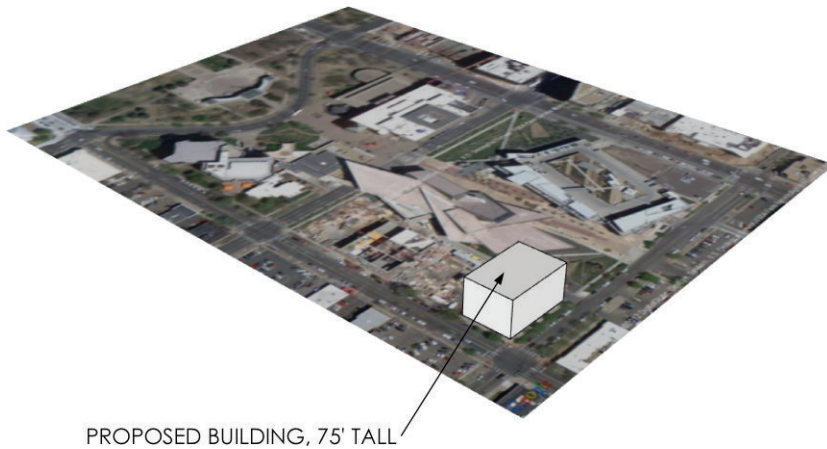

Figure 16.3 The proposed building at the southwest corner of the site
7. Toggle the Google Earth Terrain off and add a proposed building mass on the south-west corner of the site, as shown in Figure 16.3.